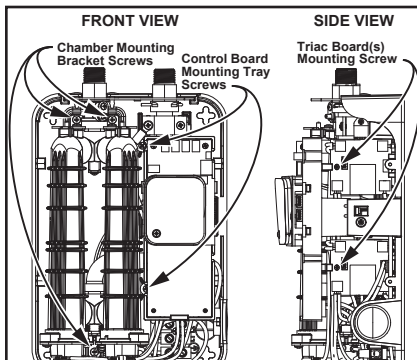

Figure 36 - Mounting screw locations.
- 5** Locate and remove all the mounting screws (7 total) with a Phillips screwdriver. See Figure 36.
- 5** Secure the chamber in place by reinstalling the three chamber mounting bracket screws. Hand tighten the Phillips screws in place, DO NOT over tighten. See Figure 36.
- 7** Reinstall the control board assembly into place. Reusing the screws previously removed, secure the control board into place. Hand tighten the screws in place, DO NOT over tighten. See Figure 36.